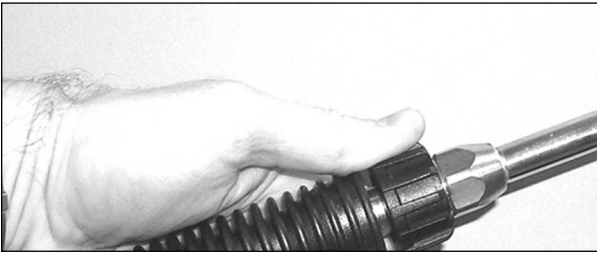

Figure 7– Attach lance to gun
7. Attach the lance to the gun (see Figure 7).